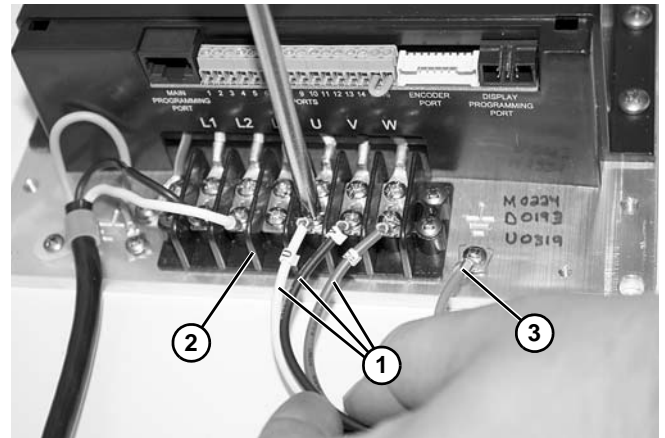

Figure 33
7. Remove motor power wires (Figure 33, item 1) from controller terminal (Figure 33, item 2).
8. Remove ground wire (Figure 33, item 3).